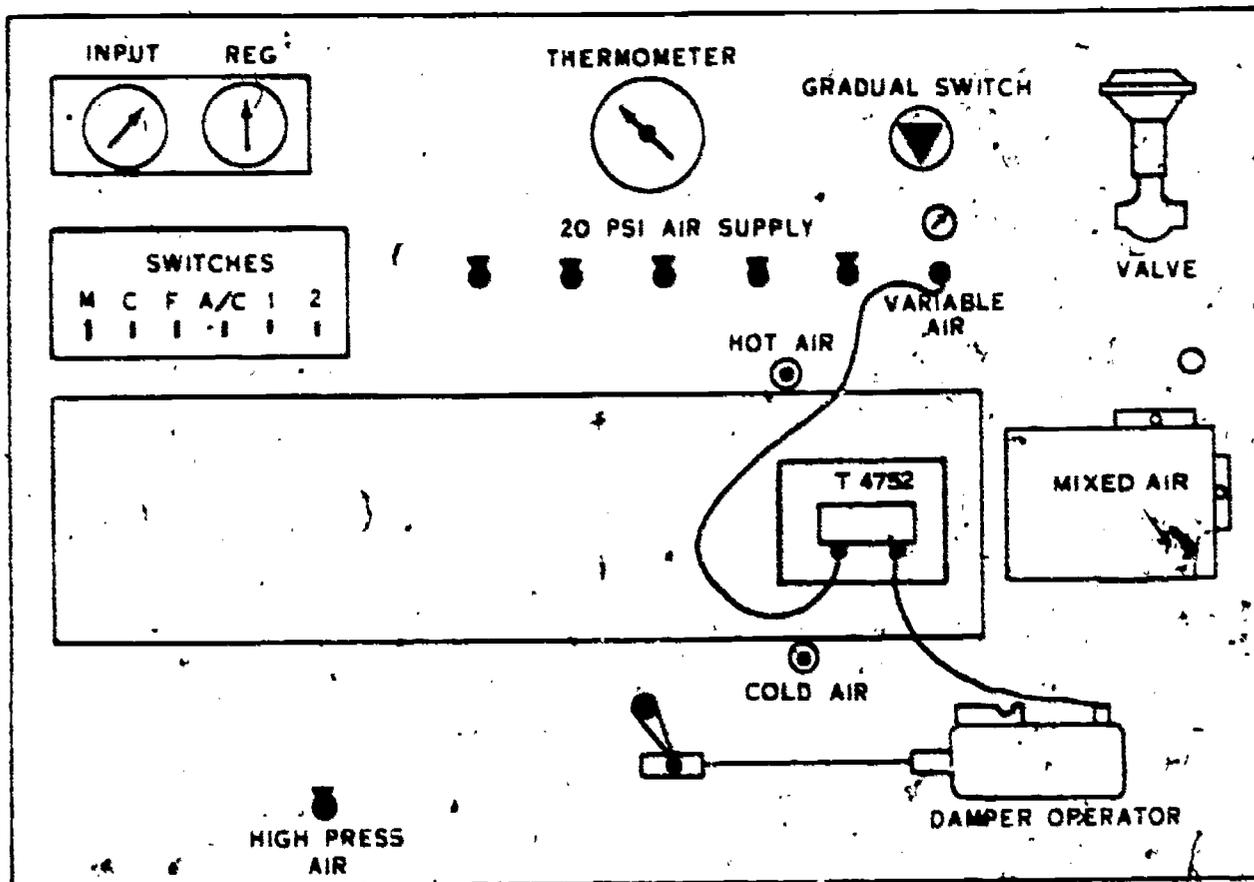

Figure 7. 295
3. Connect the heating-cooling thermostat as shown in figure 7.